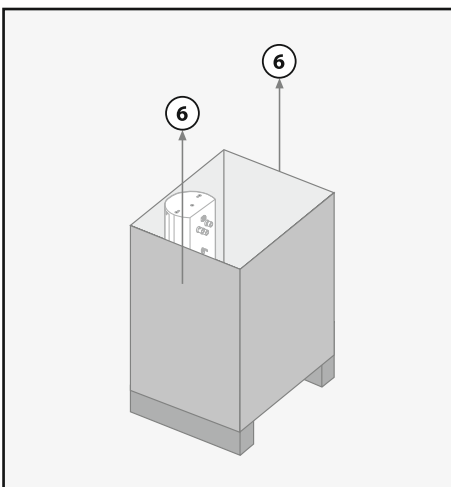

Figure 2.8: Remove the inner carton.
6. Remove the inner carton (see Figure 2.8).